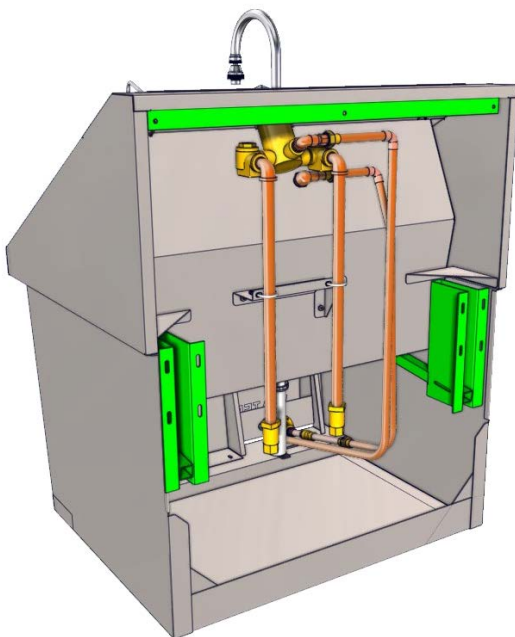
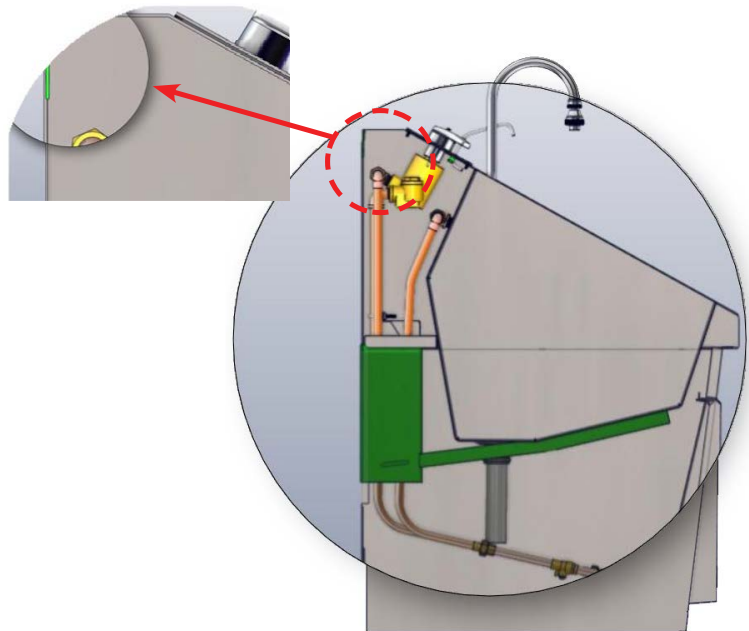

Figure 6: Z brackets on sink
Figure 7: Cross section showing Z bracket on sink
- a. With the help of an assistant, slide the sink over the Z brackets until it locks securely into place (Figure 6 - Figure 7, Z brackets shown in green).